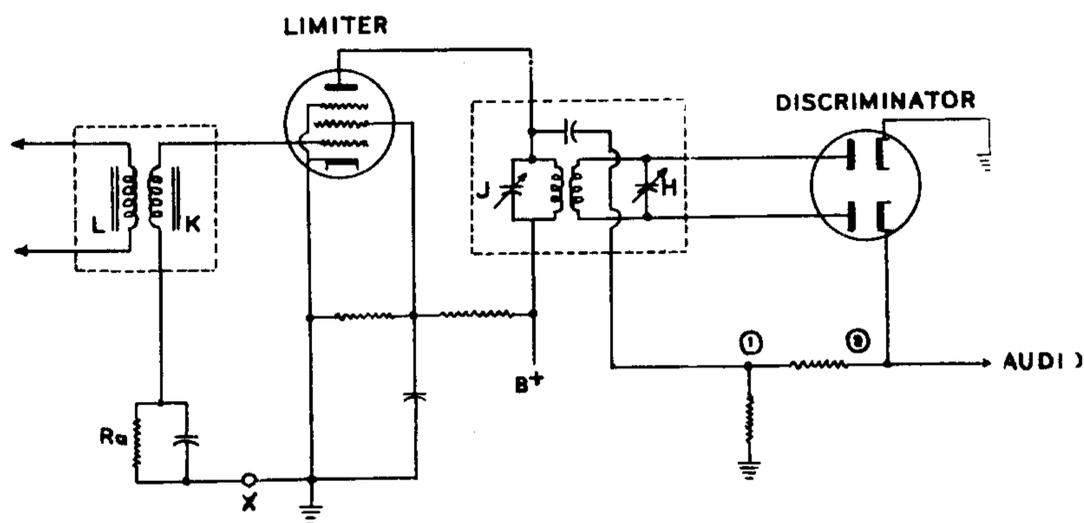

Figure 14
It is the standard practice to align the IF amplifier of an FM receiver (tuner) before aligning the RF and oscillator sections just as in AM receivers. However, the exact technique of alignment depends on whether a limiter discriminator or a ratio detector is used. Where a limiter and discriminator are used, usual practice is to align the IF section up to the input of the limiter first. Then align the discriminator as a separate step. When aligning the IF, RF and oscillator sections, the grid current of the limiter may be used as an output indicator. Although the voltage across a limiter grid resistor, measured with a VTVM, will serve in many cases, it is not an ideal indication. A typical limiter and discriminator stage is shown in Figure 14. Proper alignment technique for the complete FM receiver is as follows:
- (1) Connect an output indicator by (1) attaching a VTVM across the limiter grid resistor, or (2) breaking the circuit at the grid of the limiter and inserting a microammeter with a maximum range of around 150 microamps. If this method is used, be sure and bypass the meter with a  $.05 \mu\text{f}$  condenser to ground. See point X in Figure 14.
- (2) Connect a signal generator to the input of the mixer stage and turn on both the signal generator and the receiver. A sufficient warm-up time must be allowed to permit both the receiver and the generator to reach their normal operating temperature. In the case of FM receivers this is usually 15 to 20 minutes before complete stabilization can be obtained. Adjust the signal generator to the IF value of the set. This is usually 10.7 mc. The unmodulated RF output of the signal generator is used.
- (3) Peak all IF trimmers for maximum meter readings. If the IF is considerably out of alignment so that very little meter reading is obtained, it may be necessary to connect the signal generator to the last IF stage and align this portion of the circuit first. Then work back toward the mixer stage, rechecking previous IF adjustments at each point.
- (4) Connect a VTVM between point 1 and ground as shown in Figure 14. Adjust the trimmer or slug "J" for maximum reading using a low VTVM range.
- (5) Transfer the VTVM connection to point 2 and adjust trimmer "H" for a minimum voltmeter reading.
- (6) Transfer the signal generator lead to the antenna terminals and align the RF and oscillator trimmers, using essentially the same technique as is outlined for AM receiver adjustment, except the frequency settings will fall between 88 mc and 108 mc. The output indicator for this adjustment is the same as discussed in Step 1. Lastly, adjust the antenna trimmer for maximum indication or volume using the receiver's own antenna and at its permanent location.